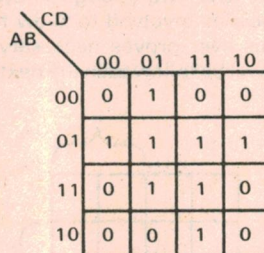

FIG. 3
Our next step is to draw up a Karnaugh map grid for the number of terms involved—here four, and place a 1 in each of the cells which correspond to the truth value combinations shown in (1). To keep the example simple, let us assume that the output of the circuit should be false for all remaining combinations, so that we can place a 0 in all of the other cells. We thus end up with a map of the required function, as shown in Fig. 3.
As it happens, our example of Fig. 3 does not involve this type of loop. However it does have a number of possible "correct answers", which is a situation that often occurs. In other words, a complex function may not have just a single "minimal" form, but may have a number of minimised forms which from the logical point of view may be equally basic. Which of these may be most desirable from a practical point of view will usually depend upon considerations other than
Three of the possible groupings for the example of Fig. 3 are shown in Fig. 5, together with the corresponding simplified logic expressions. Of the three probably the solution in (c) would be the most attractive from a practical point of view, because it results in an expression containing only four main terms, two of which contain only two of the original input terms.